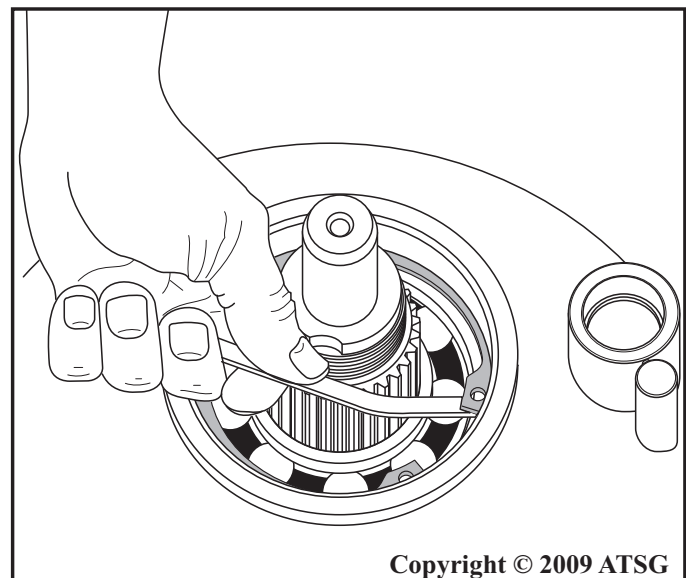

Figure 190
31. Check with a feeler gauge and ensure there is no play between the bearing and snap ring, as shown in Figure 190.